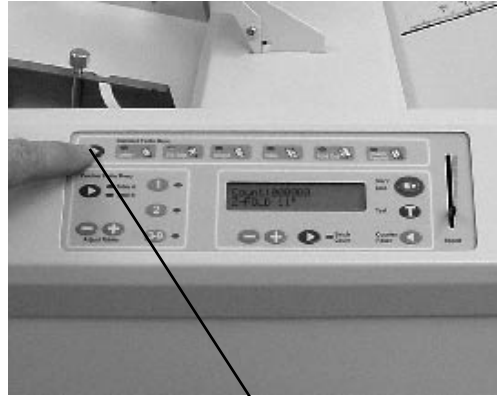

Fig. 5 Fold selection button
8. Select the type of fold desired (Fig 5).
- Press the “-” and/or “+” button to enter the length of the fold. Fine adjustments can be made with the adjustment knob at the end of the plate (Fig. 5).